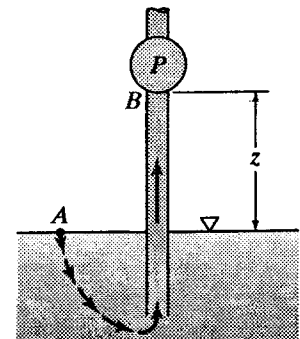

Figure P5.36
- 5.36 In Fig. P5.36 friction losses in the pipe below pump P are $1.8V^2/2g$ with the barometer pressure at 12.50 psia. The liquid in the suction pipe has a velocity of 7 fps. What would be the maximum allowable value of z if the liquid were (a) water at 70°F; (b) gasoline at a vapor pressure of 9 psia with a specific weight of 47 lb/ft³?